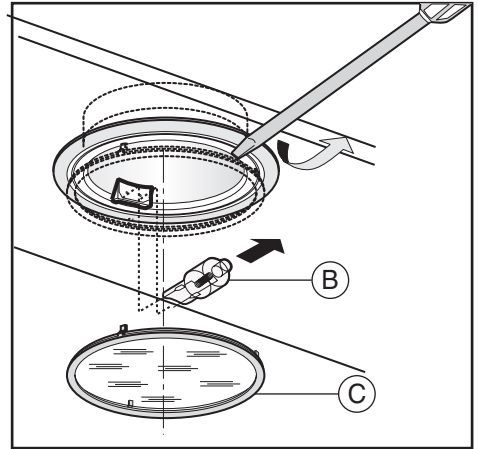

Fig.6
• Replacing halogen light bulbs (Fig.6)